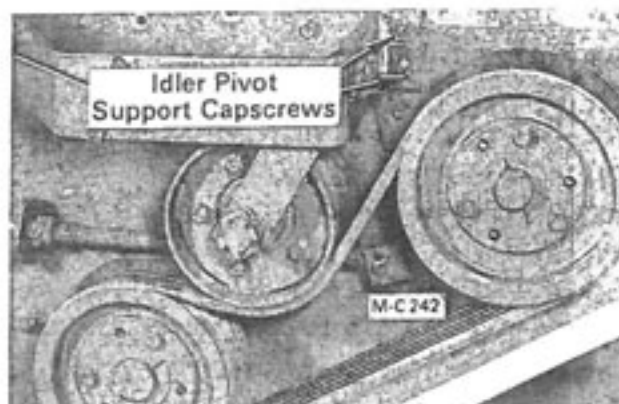
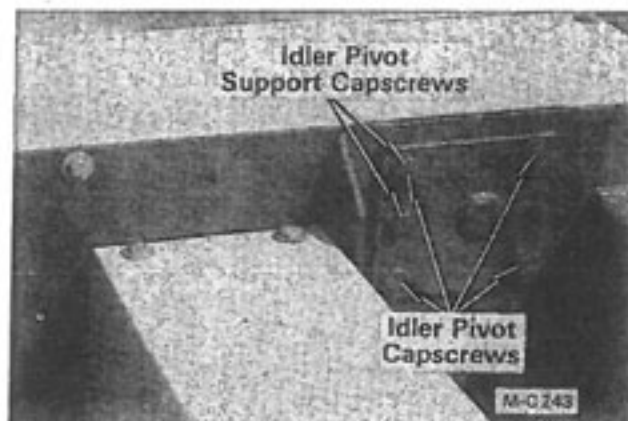

Figure 35 - Idler Push Rod Ass'y.
Figure 36
4. The idler pivot support is adjustable horizontally and the idler pivot is adjustable vertically, see Figure 35.
5. Loosen the idler pivot support capscrews, see Figure 35, and the idler pivot capscrews, see Figure 36.